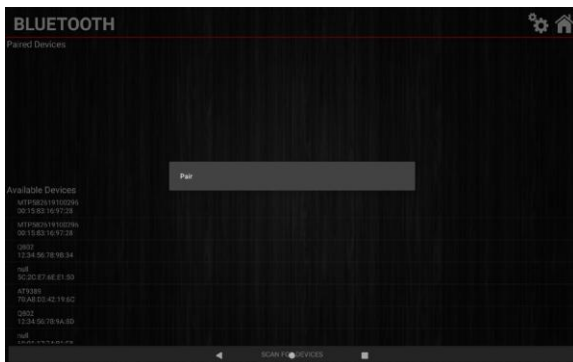

Figure 52
5. Select “Pair” from the displayed prompt (Figure 52).